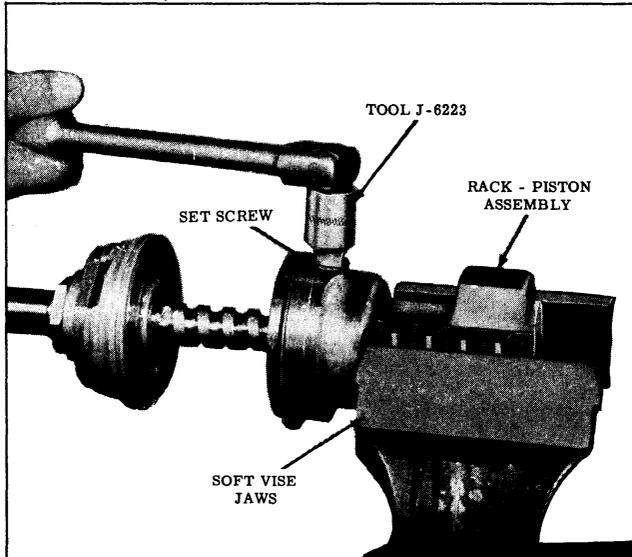

Fig. 5-50 Removing Set Screw
1. Clamp rack-piston assembly in vise and remove set screw as shown in Fig. 5-50.